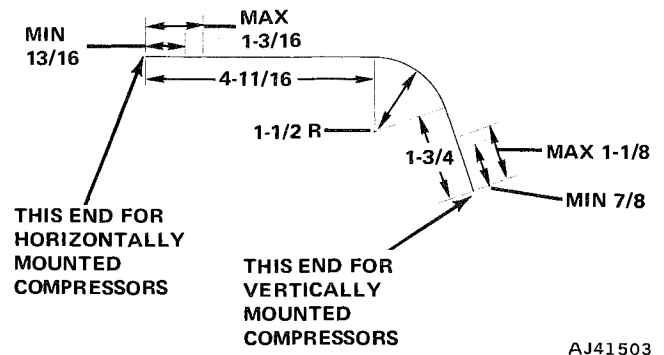

Fig. 3E-15 Oil Dipstick Fabrication Dimensions (Inches)
- (4) Hold dipstick as vertical as possible and insert in check plug opening. Oil level should be within specified levels indicated in figure 3E-15.
- (5) Add clean refrigerant oil, if necessary.